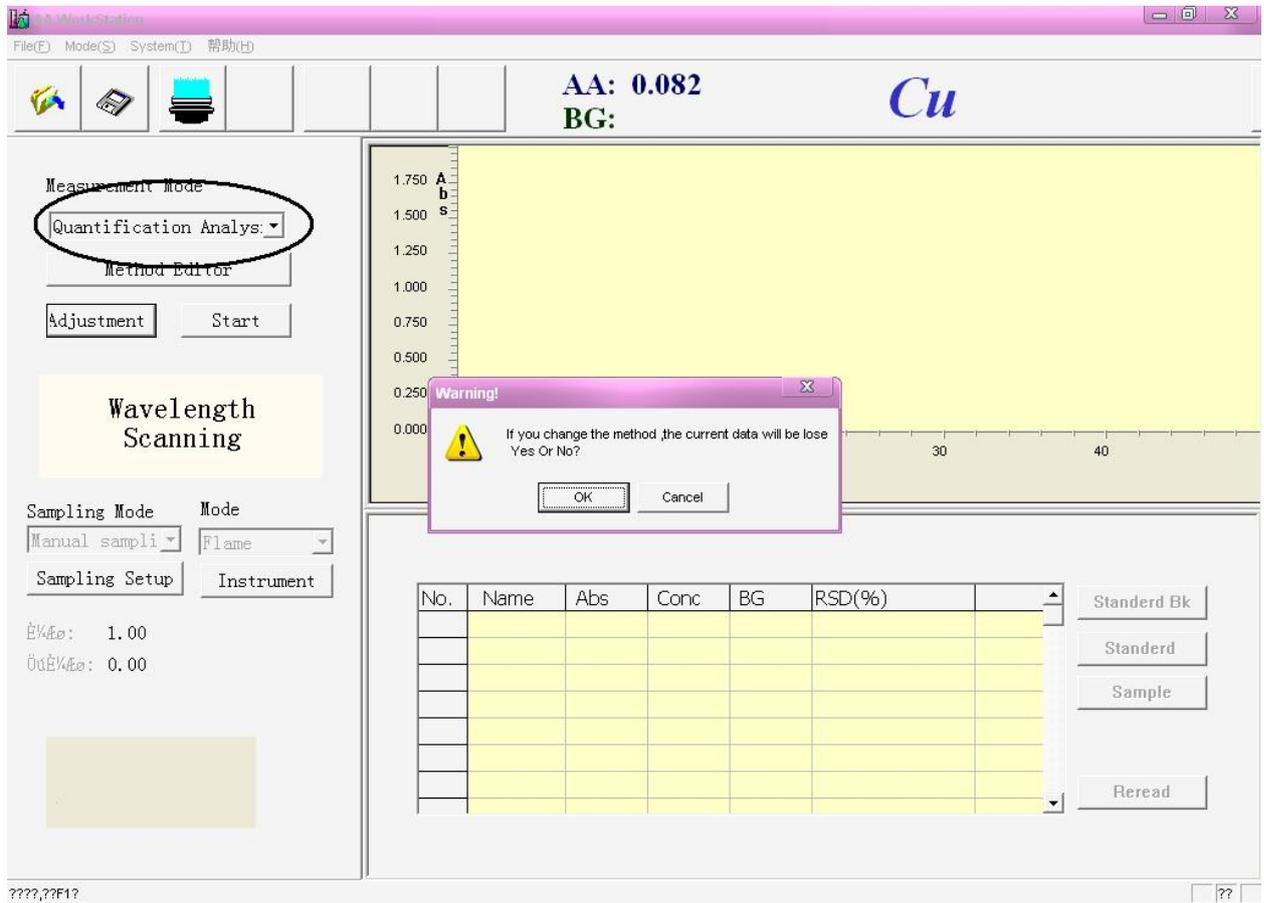

Figure 5-16
4. Figure 5-16, select the ”quantification analysis” from the ”Measurement Mode”